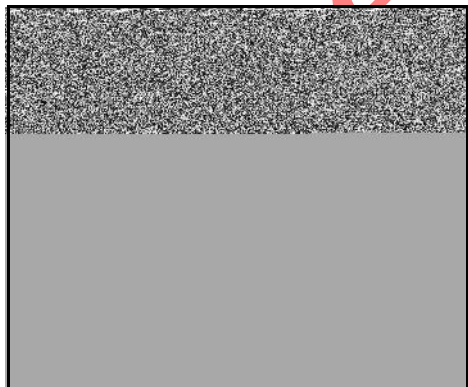

Figure 12
3. Install the screws to the finger guard (**A**, Figure 12) and the fuel tank (**B**), torquing screws to values listed in Section 12 - Engine Specifications.